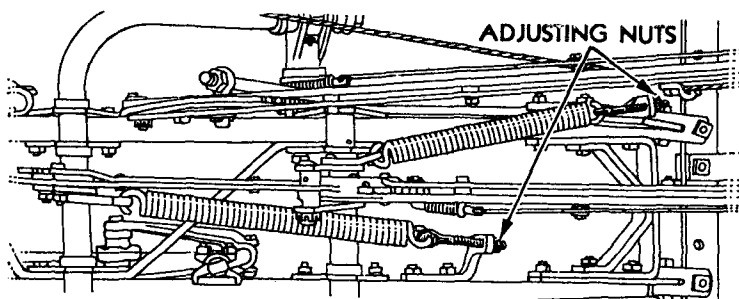

FIGURE 26—ADJUSTING LIFTING SPRING
E. Lifting Springs.—The lifting springs should have proper tension. If the springs do not have enough tension, the land wheel may slide before lifting the plow, and the hand levers will be difficult to adjust. If the springs are too tight, the plow will not drop quickly when the clutch is tripped, resulting in slow penetration. To tighten, turn nuts on end, clockwise. Reverse movement to loosen (Figure 26).